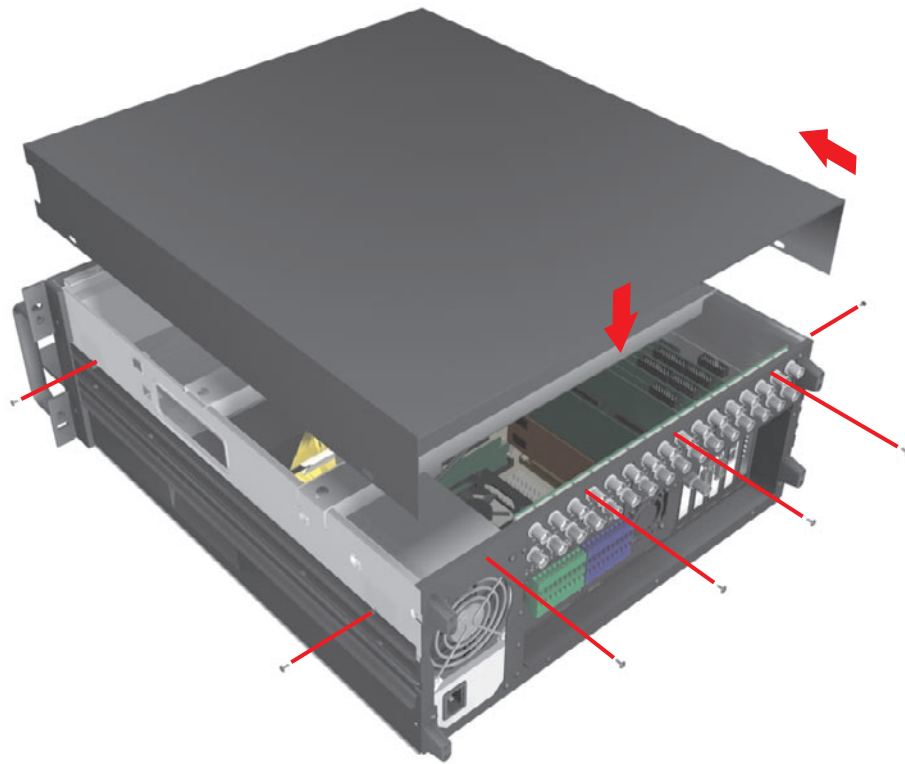

Figure 10. Replacing Chassis Cover
1. Replace the chassis cover using the same screws you removed from the side and rear of the unit. Refer to Figure 10.